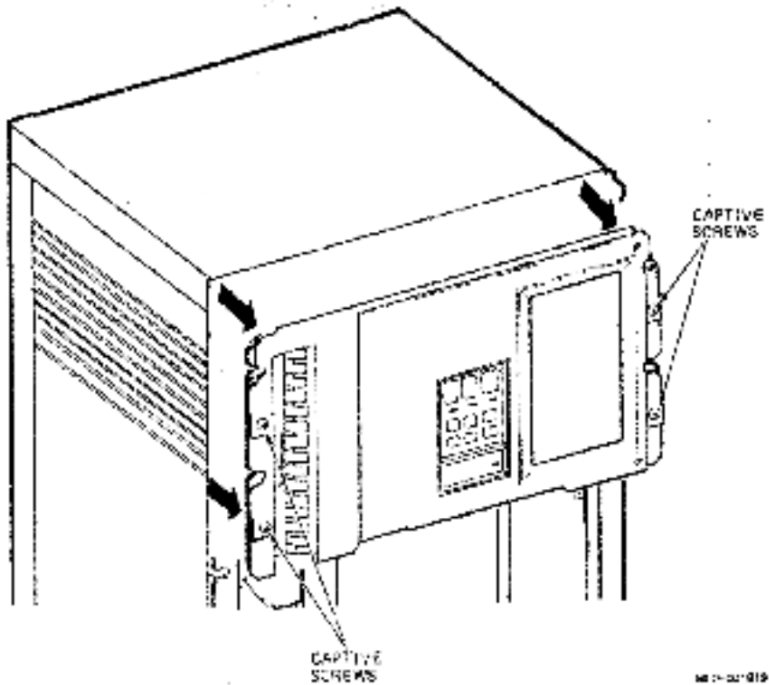

Figure 4-7: Removing the Top Media Faceplate
1. Loosen the four captive screws that hold the top media faceplate to the R215F frame and remove the faceplate (Figure 4-7).